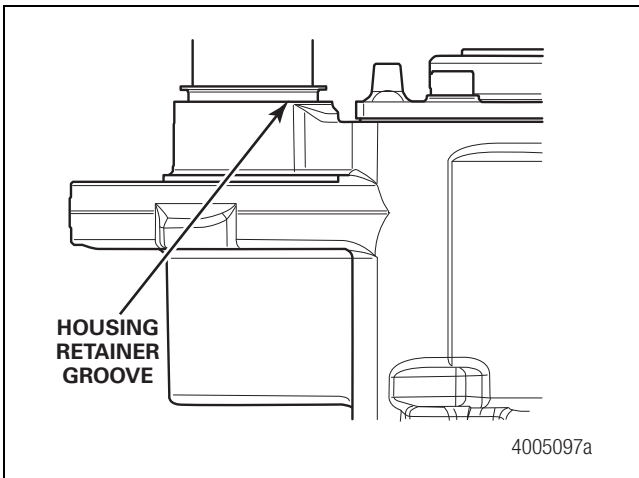
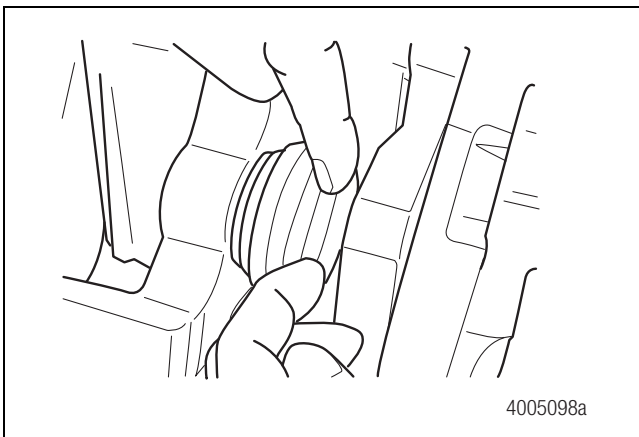

Figure 5.52
Figure 5.53
3. Install the slide pin boot beads into the housing retainer grooves. Figure 5.52 and Figure 5.53.